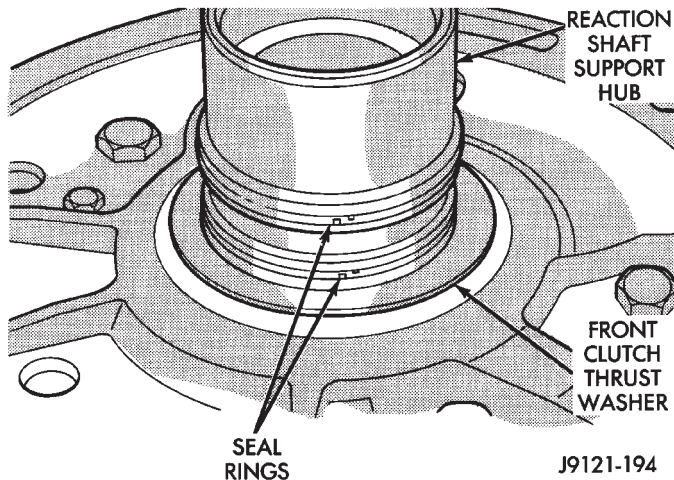

Fig. 130 Reaction Shaft Support Seal Rings And Front Clutch Thrust Washer
(23) Check seal rings on reaction shaft support hub. Verify that seal rings are hooked together and that front clutch thrust washer is properly positioned (Fig. 130). Use petroleum jelly to hold thrust washer in place if necessary.
(24) Lubricate oil pump body seal with petroleum jelly. Lubricate pump shaft seal lip with petroleum jelly.